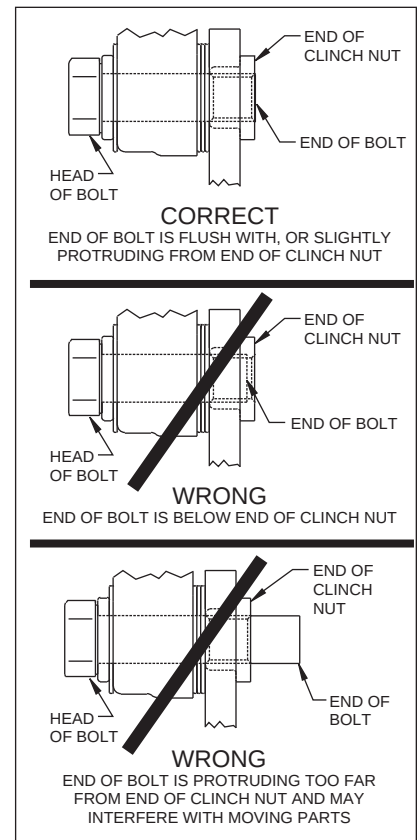

Figure 4.
- NOTE:** Please reference the caution statement at the beginning of the assembly instructions. Mount the caliper (6) over the rotor (3) and onto the caliper mounting bracket (1) using washers (7) and mounting bolts (8). View the rotor through the top opening of the caliper. The rotor should be aligned in the center of the caliper. If not, adjust the caliper by using 0.032 inch shims (9) by placing them between the caliper mounting bracket (1) and the caliper (6). Add as many shim washers (9) as necessary to achieve the correct alignment. **NOTE:** The end of the bolt must be flush with or slightly protruding from the head of the clinch nut. See Figure 4. Place spare shims (9) between washer and caliper mounting ear to achieve the proper mounting fastener configuration. Always use the same amount of shims on both the top and bottom caliper mounting bolts (8). Apply red *Loctite*® 271 to the mounting bolt threads (8), torque to 40 ft-lb. Caliper mount bolts may be safety wired for additional security.
- Position the Wilwood disc brake pads (10) into the caliper (6) and fasten with cotter pin (4). Steel backing plate side of brake pad should face the caliper pistons.